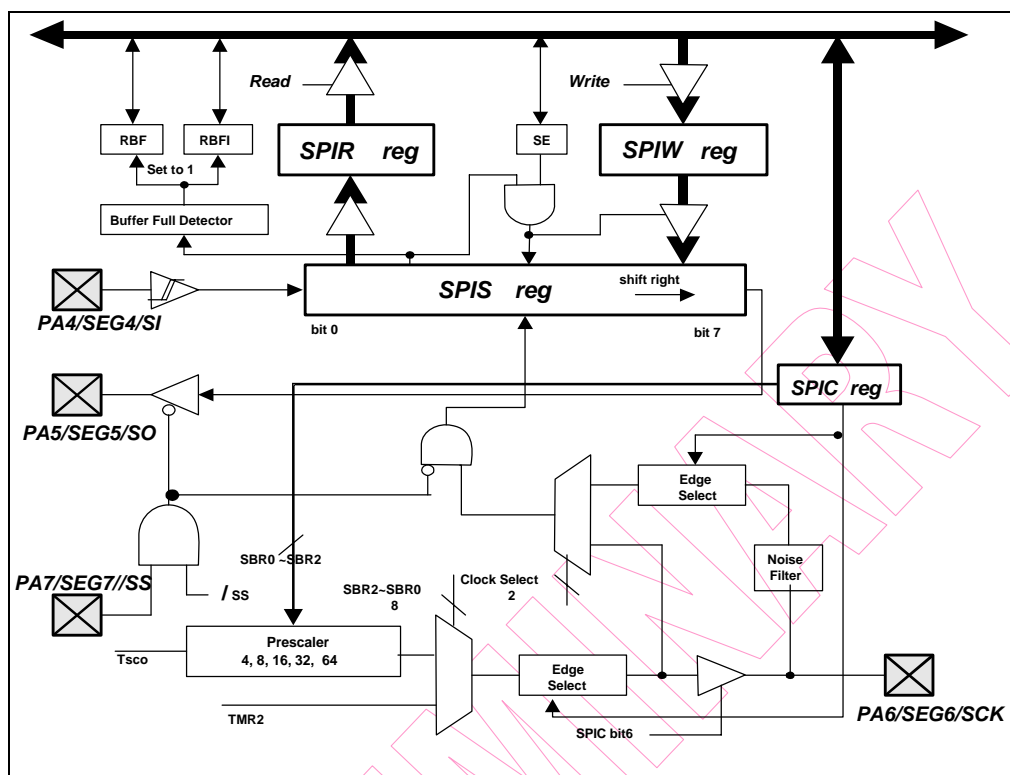
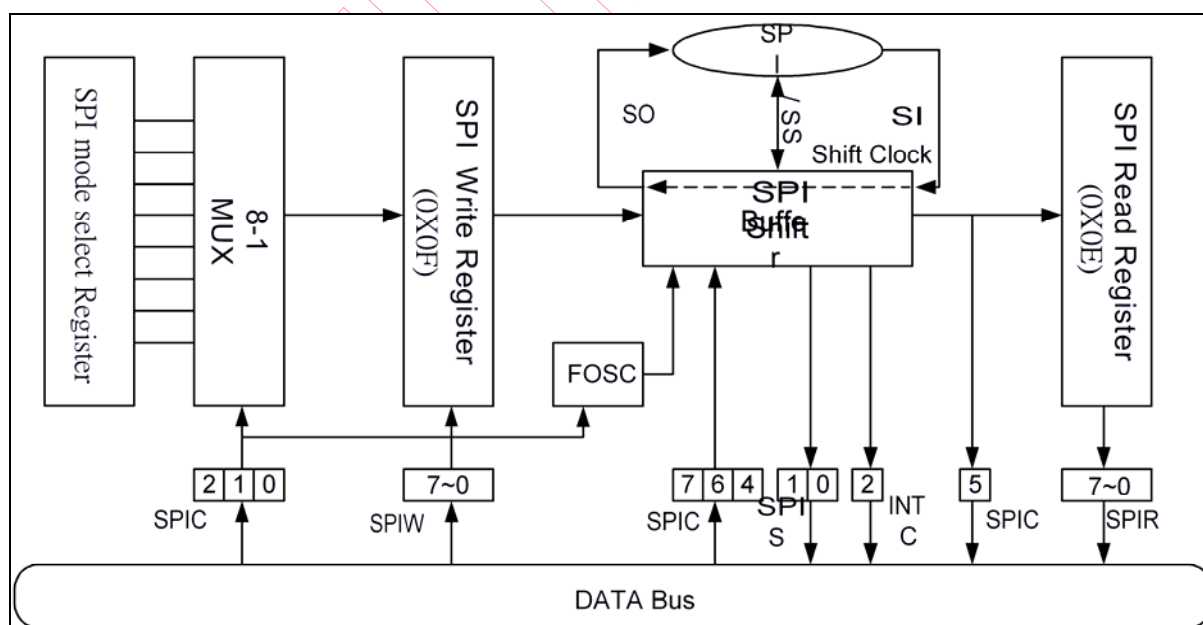

Fig. 6-22 SPI Block Diagram
Fig. 6-23 The Function Block Diagram of SPI Transmission
Below are the functions of each block and explanations on how to carry out the SPI communication with the signals depicted in Fig.6-22 and Fig.6-23.
- Timing is shown in Fig.6-23 and 6-24
- Timing is show in Fig.6-23 and 6-24